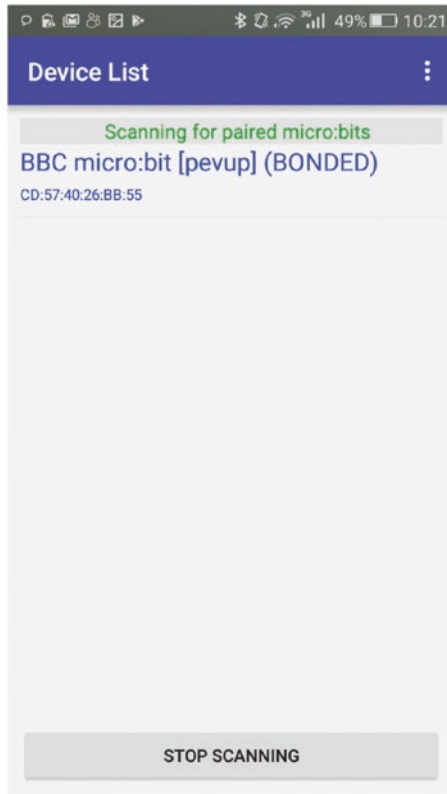

Figure B-24. List of paired micro:bit(s)
2. Tap the name of your micro:bit board from the list of names (see Figure B-24).